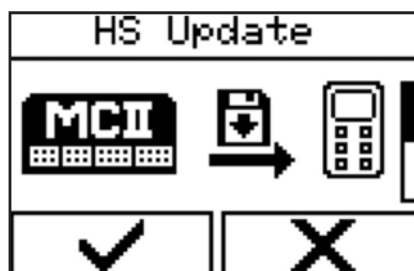

Figure 65 - Selecting a menu
1. Select the menu via 'Hand switch' → 'Update' → 'HS Update' (Figure 65).